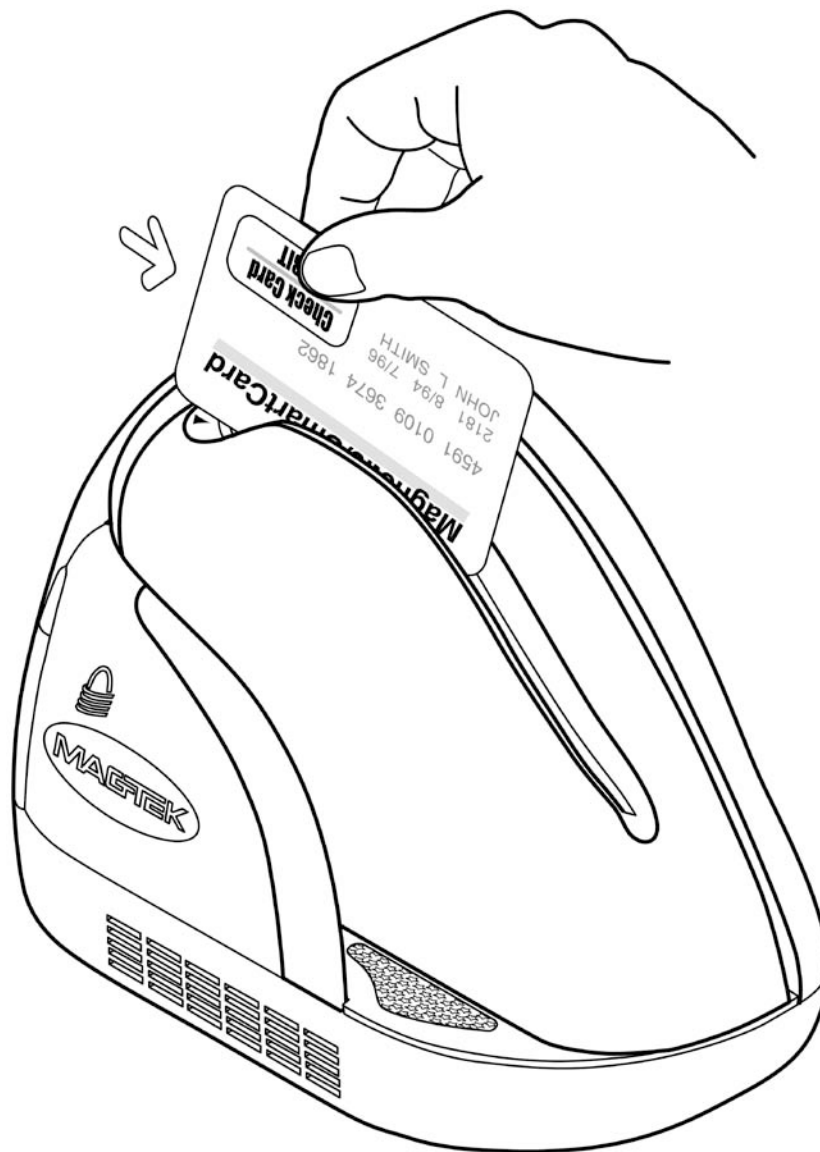

Figure 3-2. MagneSafe Reader Swipe
1. Orient the card so that the magnetic stripe is down and facing away from the logo on the unit and toward the wide color stripe on the MagneSafe reader, as indicated in Figure 3-2.